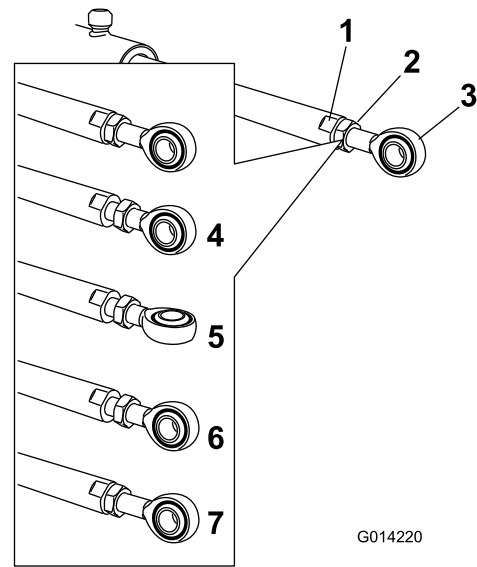

Figure 104
5. Use a wrench on the flat sides of the actuator rod to immobilize it, then loosen the jam nut to allow the eyelet rod to be adjusted (Figure 104).
6. Turn the eyelet rod in the actuator rod to shorten or lengthen the extended actuator to the desired position (Figure 104).